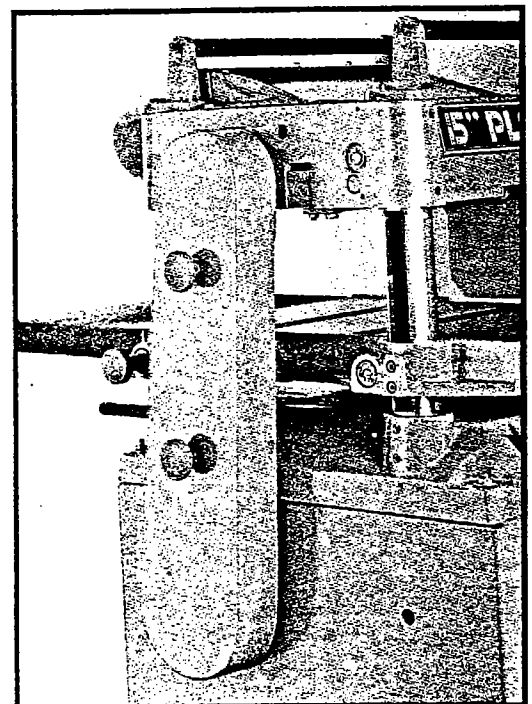

Fig. 12
4. To unload two nuts to assemble motor belt. As shown in Fig. 12.